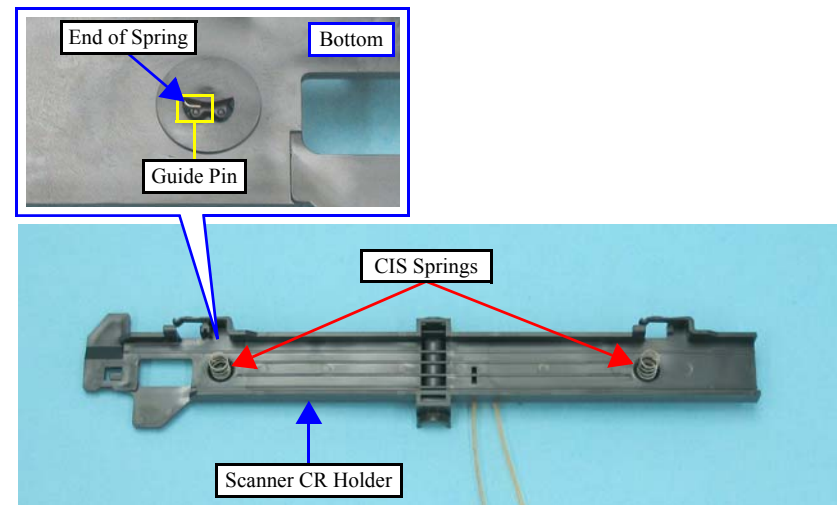

Figure 4-122. Removing the CIS Springs
- When installing the CIS Springs (x2), attach each end to their positioning tabs (x1 each) of the Scanner CR Holder as shown in Figure 4-122.